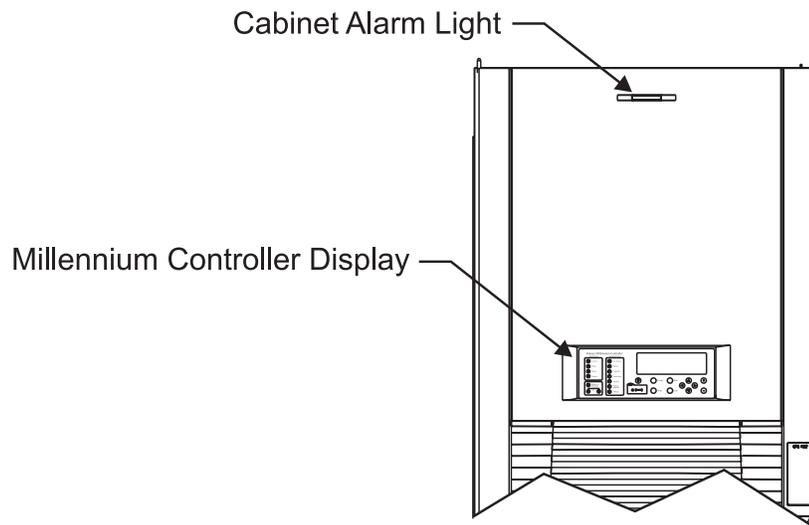

Figure 13-1: Location of Cabinet Alarm
1. Locate the system Galaxy controller. The controller is typically located in the cabinet identified as BAY ONE. Because a trouble condition exists, the red alarm on the top of the cabinet will be illuminated. See Figure 13-1.